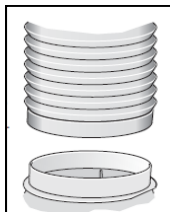

Fig. 6
## Connection to exhaust air pipe (Fig. 6 & 6.1)
- Attach  $\varnothing 150\text{mm}$  pipe directly to the air outlet and secure appropriately (Fig. 6).